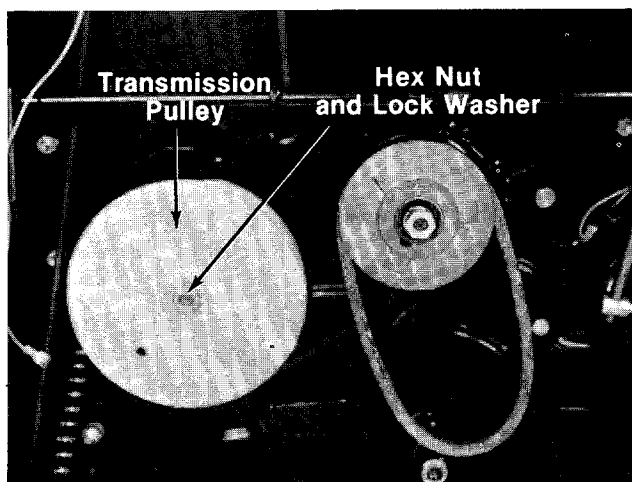

FIGURE 43.
3. Release the clutch pedal. Remove the transmission pulley by removing the hex nut and lock washer shown in figure 43. When sliding transmission pulley off shaft, be careful not to lose the key.